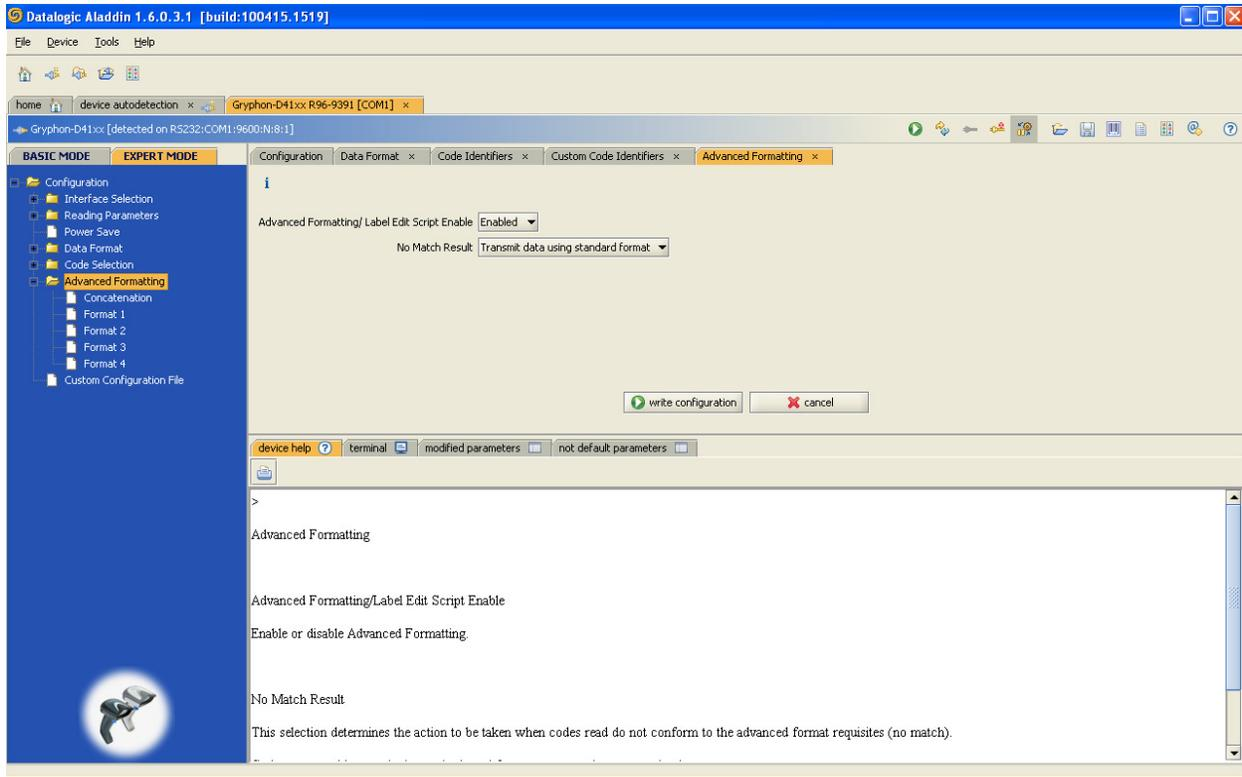

Figure 1. Advanced Formatting
3. On the left hand tree menu, select “Advanced Formatting” and make sure “Advanced Formatting/Label Edit Script Enable” is set to “Enabled” and the “No Match Result” is set to “Transmit data using standard format”. (refer to Figure 1)